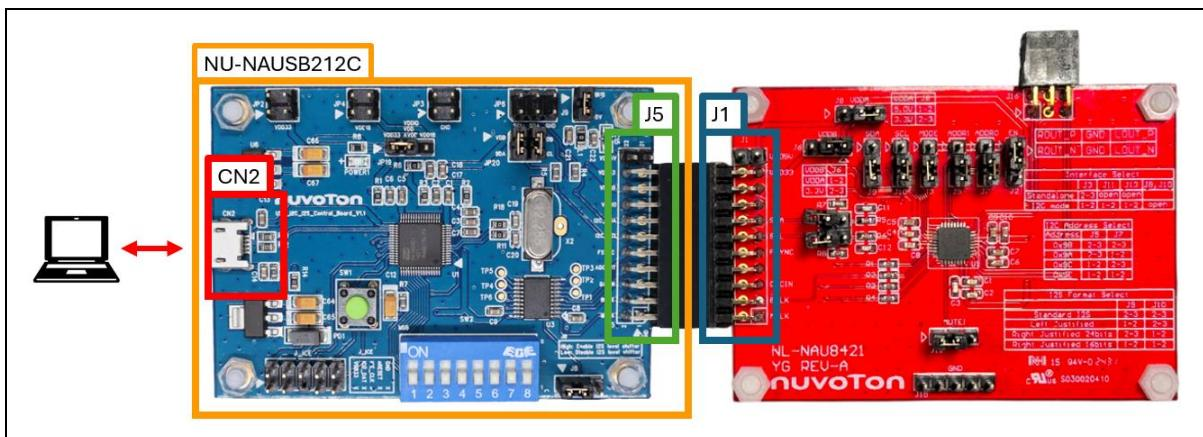

Figure 2-4 NU-NAUSB2I2C Connection
2. Connect J5 of NU-NAUSB2I2C to JP2 of NL-NAU8421. Figure 2-4 is the diagram after two boards are connected to each other.